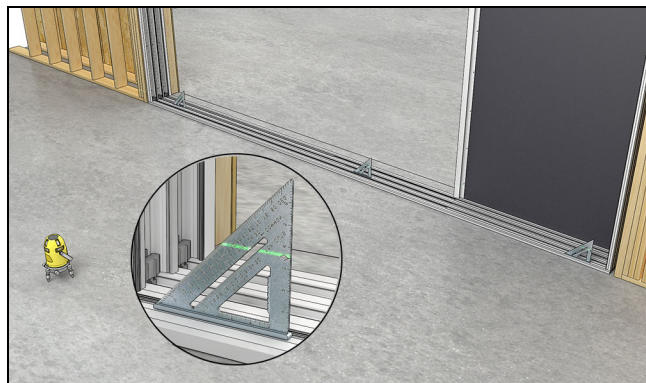

Figure 56
3. Verify that the sill is flat and level. Make adjustments as necessary. See Figure 56.